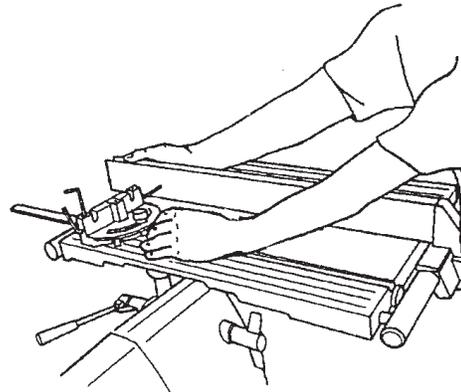

Figure B-96
76. Slide the miter gauge back and forth in the slot. See Figure B-96. The tip of the Allen wrench should keep in slight contact with the rip fence. Watch that you don't scratch the fence.